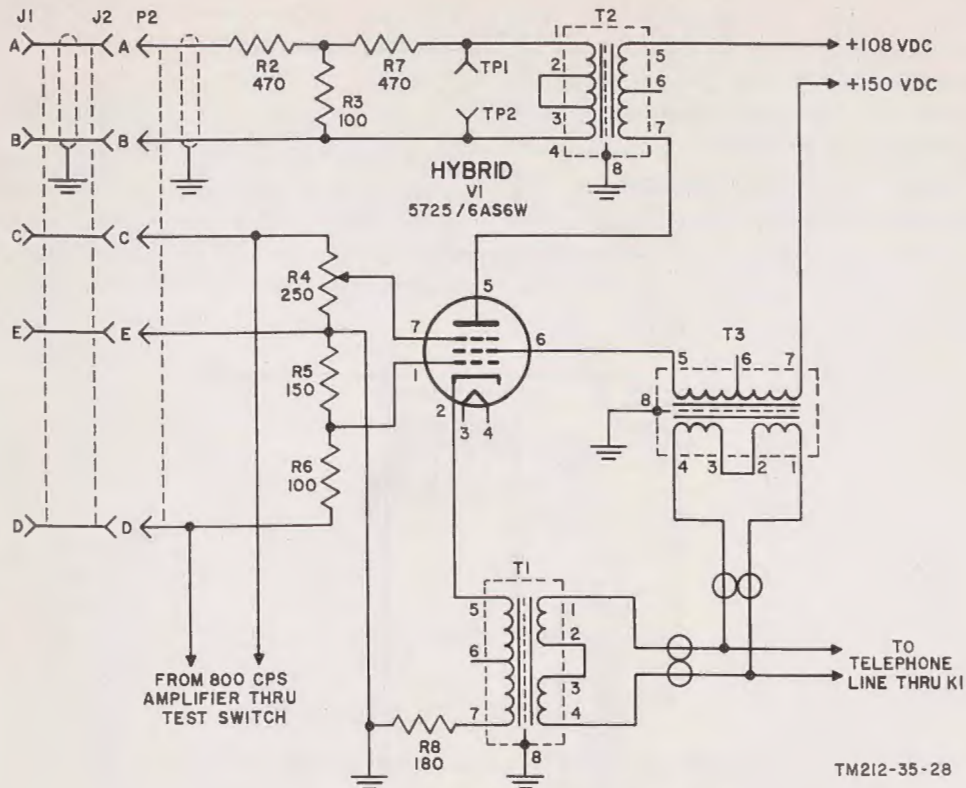

Figure 28. Hybrid V1.
(fig. 28)
b. Receiving Voice Frequencies From Remote Radio Set (fig. 28). The signal from the balanced audio output of the receiver is applied to terminals C and D of connector J1. This signal is developed across resistors R4, R5, and R6, connected in series. The resistors are in the grid circuit of V1, which is